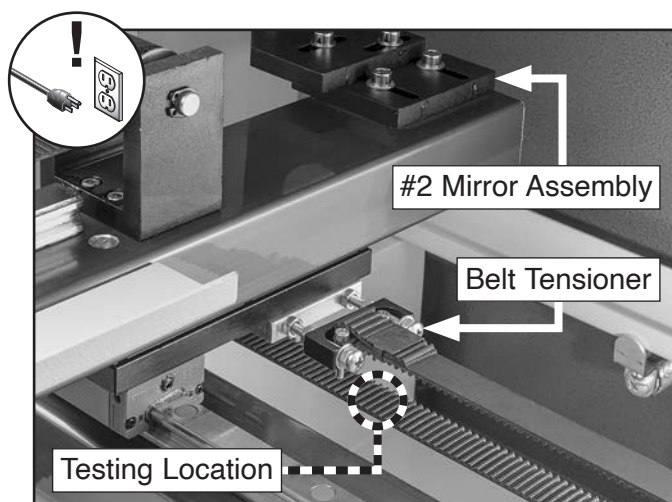

Figure 74. Right Y-axis belt deflection testing location.
3. Test for approximately 8mm of deflection on bottom side of Y-axis belt at its center (see **Figure 74**).